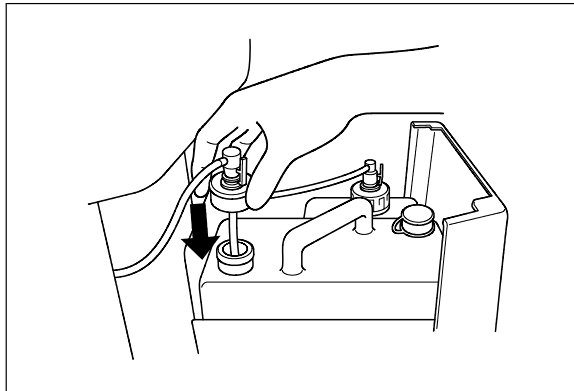

Figure 7.80
14. Put the cap in the container filled with the sterilized water (see Figure 7.80).
16. Attach the cap to the detergent tank and close the detergent/alcohol drawer (see Figure 7.80).